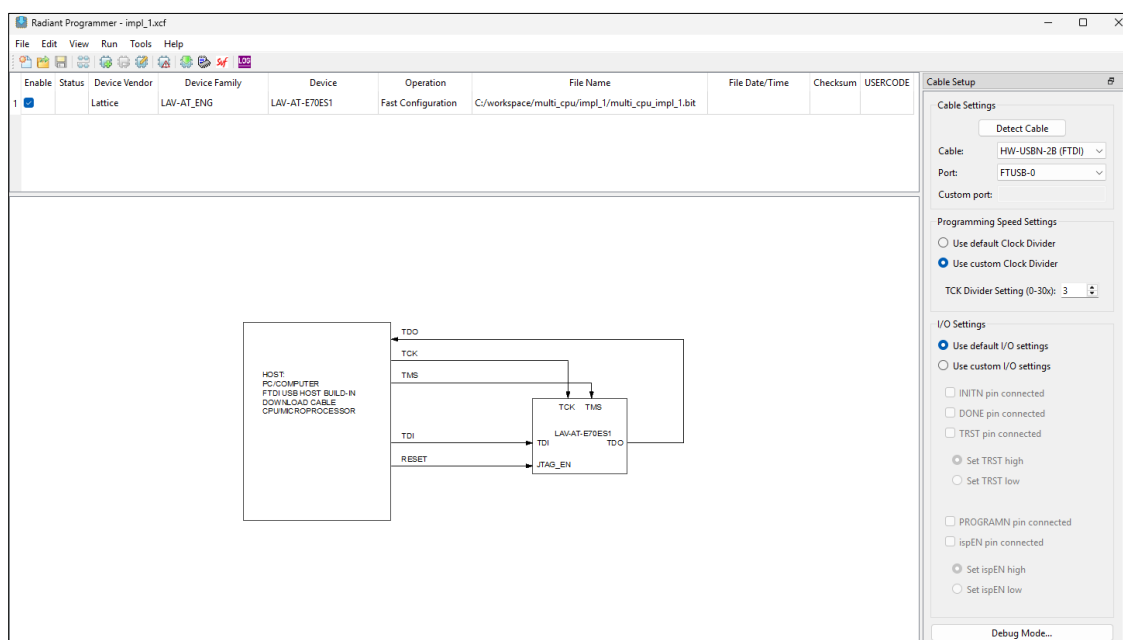

Figure 4.16. Lattice Radiant Programmer – Device and Bitstream Configuration
- Ensure the **Device Family**, **Device**, and **Operation** match the configuration shown in Figure 4.16.